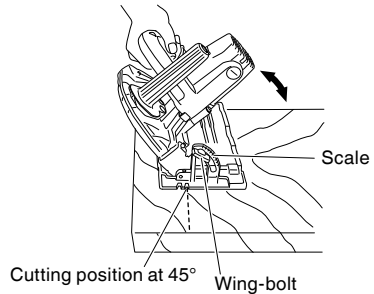
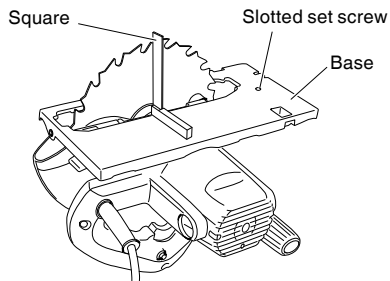

Fig. 5
Fig. 9
By loosening the wing bolt at the scale, the saw blade can be tilted up to maximum angle of 45° against the base (Fig. 5).
The angle of inclination can also be regulated by loosening the wing bolt at the scale (Fig. 5).
- (1) Turn the base face up (**Fig. 9**) and loosen the wing-bolt (**Fig. 5**).
- (2) Apply a square to the base and the saw blade and turning the slotted set screw with a slotted-head screwdriver, shift the position of the base to produce the desired right angle.